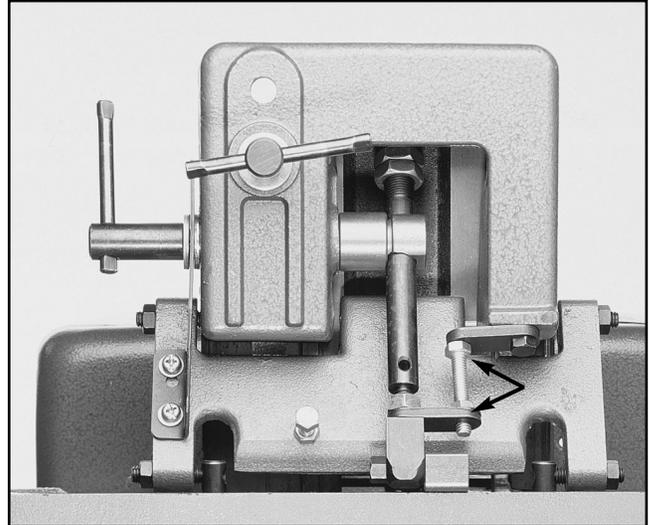

Figure 20. Location of the fence's positive stop bolt.
3. Tighten the checknut on the stop bolt and tilt the fence forward, then back against the stop. **Figure 20**.